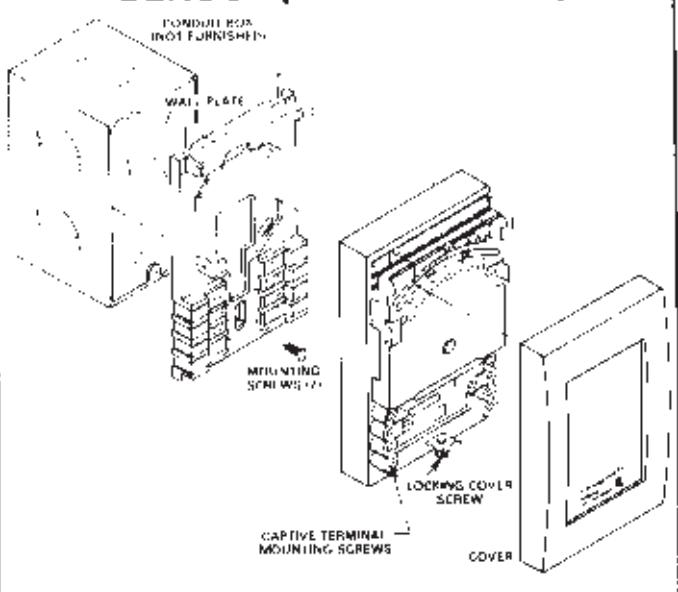

FIGURE 18
- outlet box. Wall plate, decorator plate, wiring subbase, electrical frame and cover make up the sensor assembly. See Figure 18.